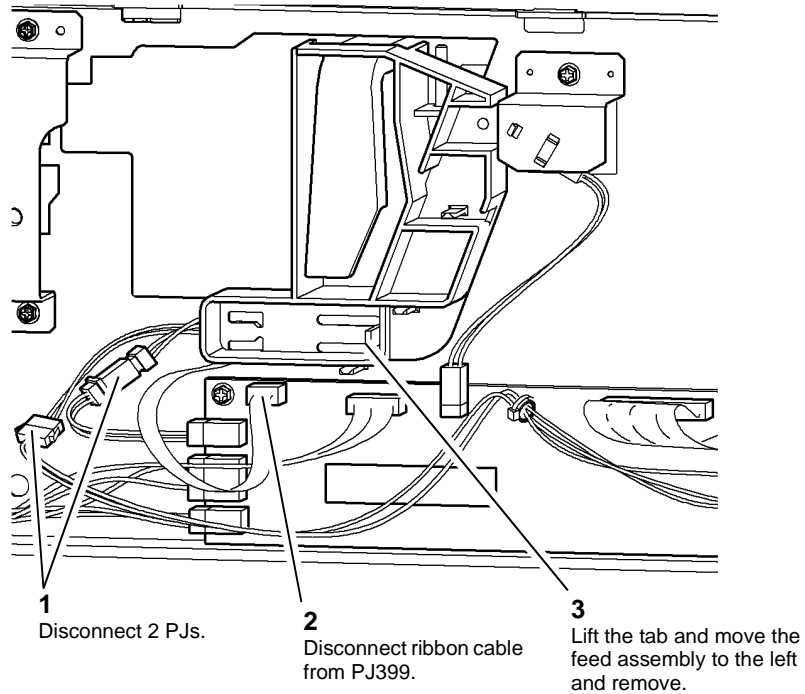

Figure 1 Tray 3 feed assembly
3. Remove the paper feed assembly, Figure 1.